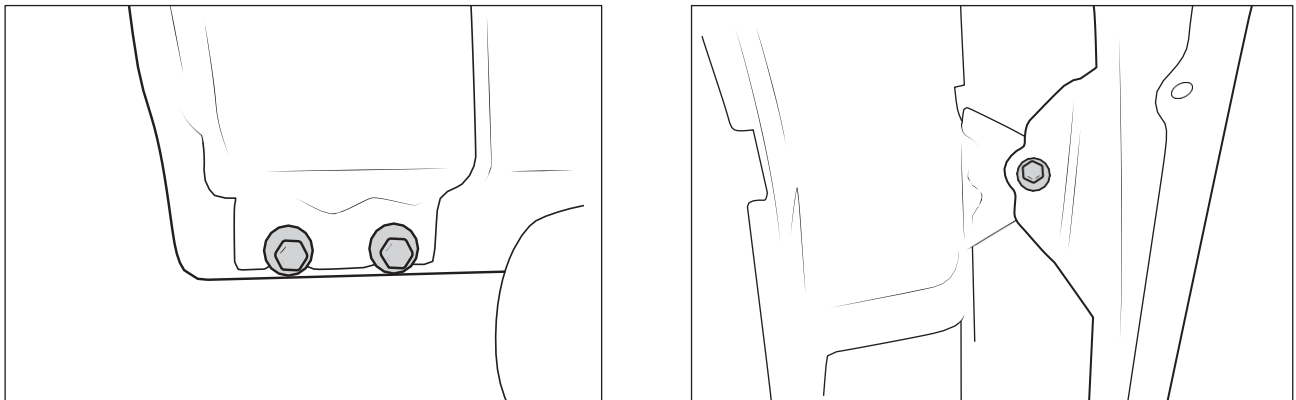

Figure 8
A. Remove two bolts at the bottom of the fender and one in the door jamb (fig. 8).